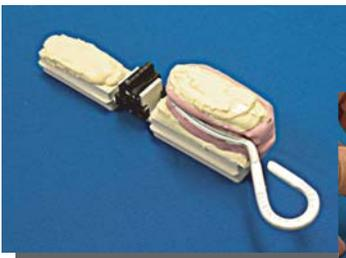

Figure 3
7. After setting and with the impression intact on the original die pour (*do not remove the impression*) and using mild vibration, fill the opposing arch with stone to the top of the impression (Figure 3).